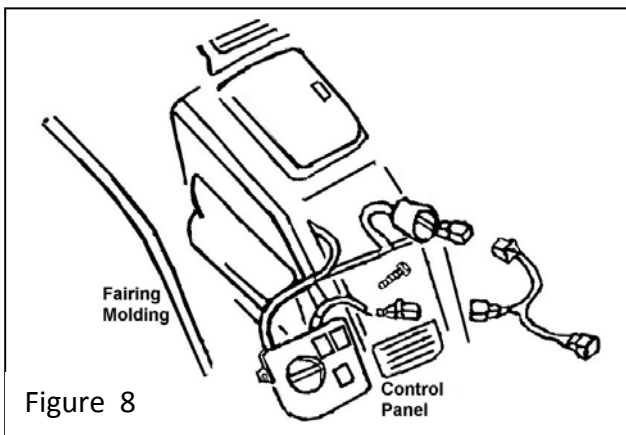

Figure 8
12. Remove left side fairing trim molding, Figure 8.